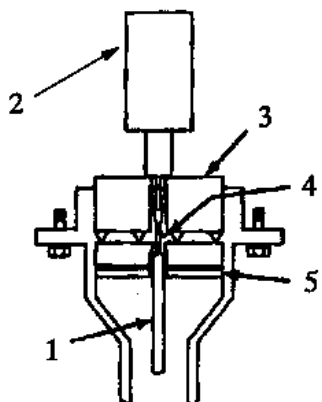

Figure 65 Push Tool into Terminal
3. In this step, push the tool into the terminal until the tool touches the connector (Figure 65), then slowly remove the tool from the terminal. A small resistance (6 to 10 oz.) must be felt. If the resistance is not felt, the terminal is expanded and must be replaced.